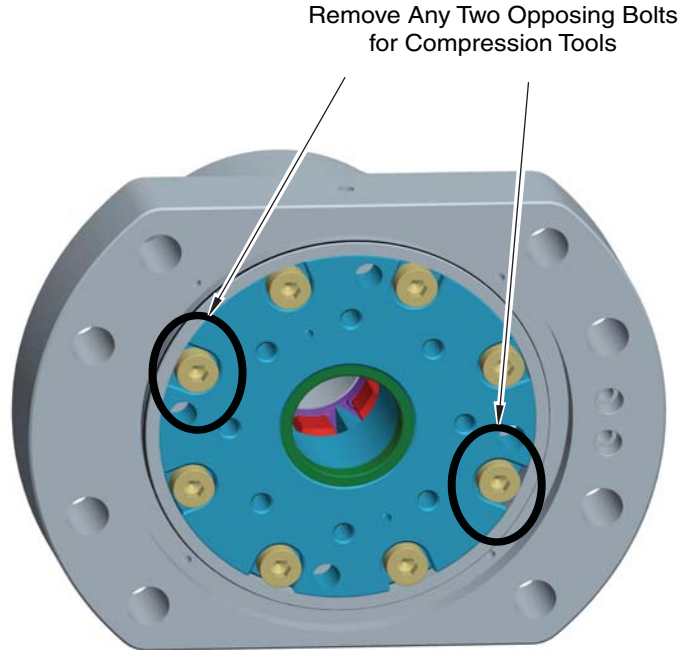

Figure 5-75. Cylinder Head
10. Carefully slide the cylinder head assembly off the main piston shaft. While moving the assembly, exercise care with the removal of the two door manifolds (10).
11. With the cylinder head assembly off, remove two opposing bolts from the wedge and bushing housing assembly (see Figure 5-75 on page 5-89). Insert and thread the two spring compression tools (P/N 20020234) to compress the locking segments and spring within the cylinder head assembly. Remove the remaining six bolts from the wedge and bushing housing assembly (see Figure 5-75 on page 5-89). Begin backing off of the compression tools evenly until spring is decompressed.